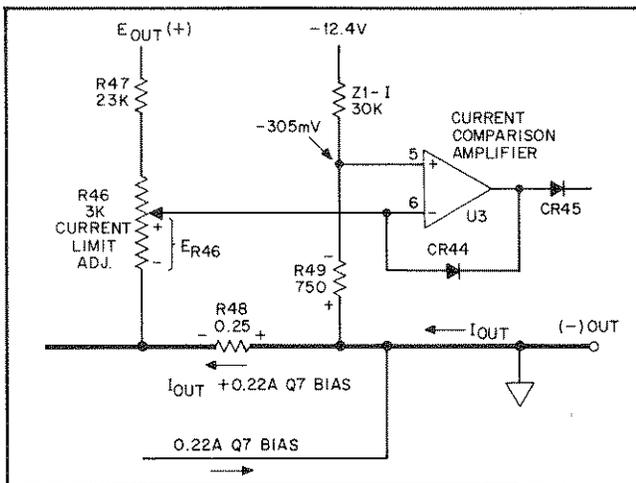

Figure 4-1. Foldback Current Limit Circuit in 6V Supply
4-27 **Current Foldback Circuit.** (For this discussion refer to the Figure 7-1 schematic and to Figure 4-1.) The differential input signal to the current comparison amplifier is the algebraic sum of three circuit voltages:
2. The voltage across the lower part of R46 (see Figure 4-1). E_{R46} is proportional to the regulator output voltage and equals 440mV when the supply output is 6 volts.